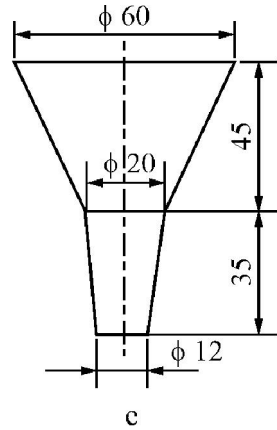

Fig. No. 4
- (b) Fig. No. 4 shows the front view of Funnel. Draw the developments of the lateral surface of each.